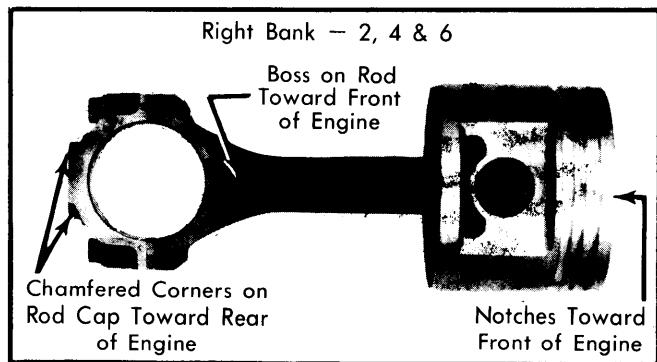

Fig. 6 Right Bank Piston & Rod Assembly
2) Place bearing insert in rod and install guides on rod bolts. Compress piston rings using suitable ring compressor. Position piston in bore so that notch in top of piston is facing toward front of engine. Push piston into bore, carefully guiding rod over crankshaft until bearing is seated against journal. Remove guides and install rod cap and bearing. Tighten rod cap nuts. See Figs. 6 and 7.
2) Inspect pin for wear and/or scoring. Check clearance of pin in piston. If clearance is excessive, piston and pin assembly must be replaced. Place piston on rod in correct position for bank in which piston and rod are being installed. See Fig. 6